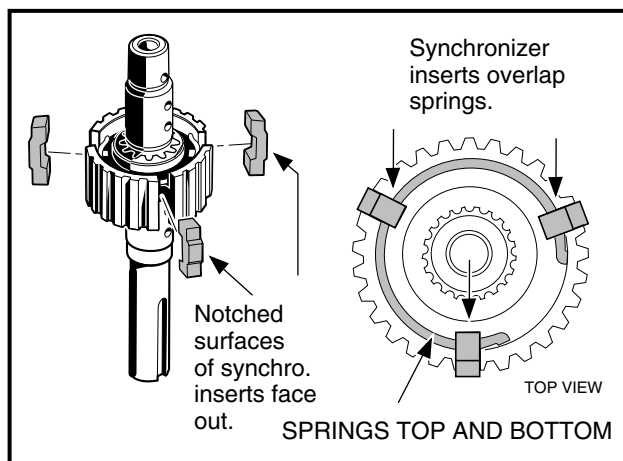

Figure 7-30 Synchronizer Inserts
- 1.3. Install the three synchronizer inserts (51) into the slots in the sleeve (**Figure 7-16, Page 7-9**). Make sure the notched surfaces of the inserts are facing outward (**Figure 7-30, Page 7-18**).
- 2.3. Install the three synchronizer inserts (51) into the slots in the sleeve (**Figure 7-17, Page 7-10**). Make sure the notched surfaces of the inserts are facing outward (**Figure 7-30, Page 7-18**).